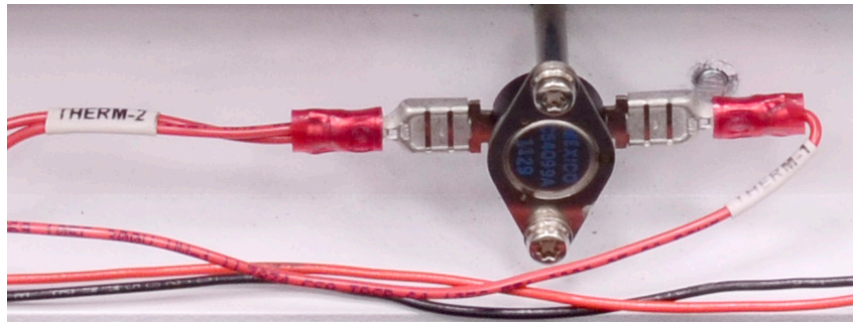

Figure 12 Thermostat
- 2 Remove the two wires **THERM-1** and **THERM-2** from the thermostat (see Figure 12).
- 3 Remove the two screws that hold the thermostat in place, and remove the thermostat (see Figure 12).
- 5 Attach the wires marked **THERM-1** and **THERM-2** on the wiring harness to the connectors on the thermostat. It does not matter which wire is attached to which side of the thermostat (see Figure 12).